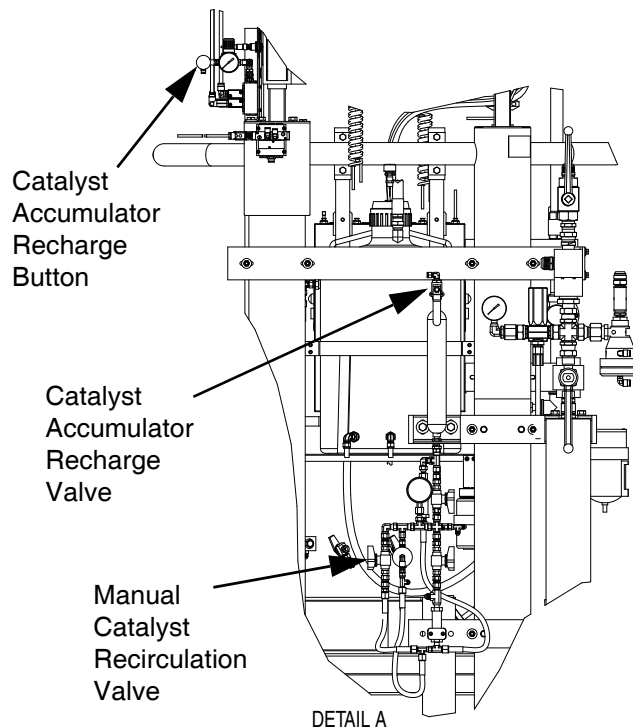

FIG. 10: Catalyst Accumulator Components
1. Depressurize the catalyst system by opening the Manual Catalyst Recirculation Valve. See FIG. 10.
4. Open the Catalyst Accumulator Recharge Valve. See FIG. 10.
5. Press and hold the Catalyst Accumulator Recharge Button for approximately 15 – 20 seconds to refill the accumulator. See FIG. 10.